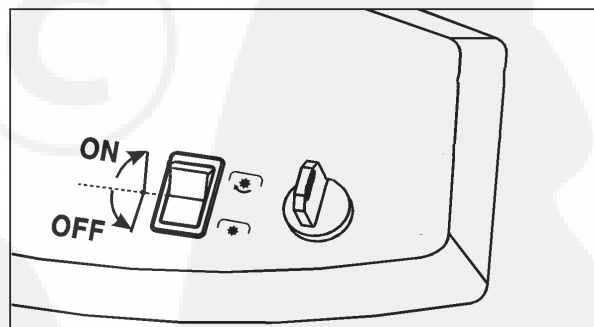

Fig. 19
Be sure the cutting system is disengaged and is in the OFF position before starting the engine. (Fig. 19).
3. When on the lawn, engage mower clutch with toggle switch (Fig. 19).
- c. the cutting switch is in ON position (Fig. 19)